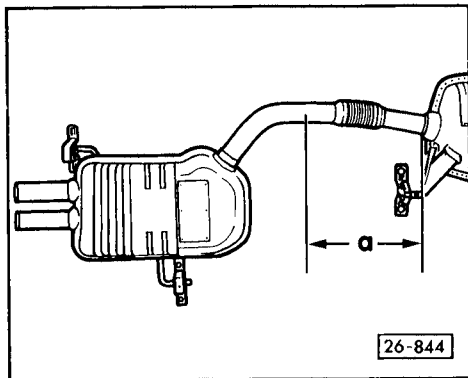

Fig. 1 Separating point between centre and rear silencers (Vehicles with four-wheel drive)
Separating point between centre and rear silencers ⇒ Fig. 1, page 26-5.
- Separating point on vehicles with four-wheel drive ⇒ fig. 1, page 26–5